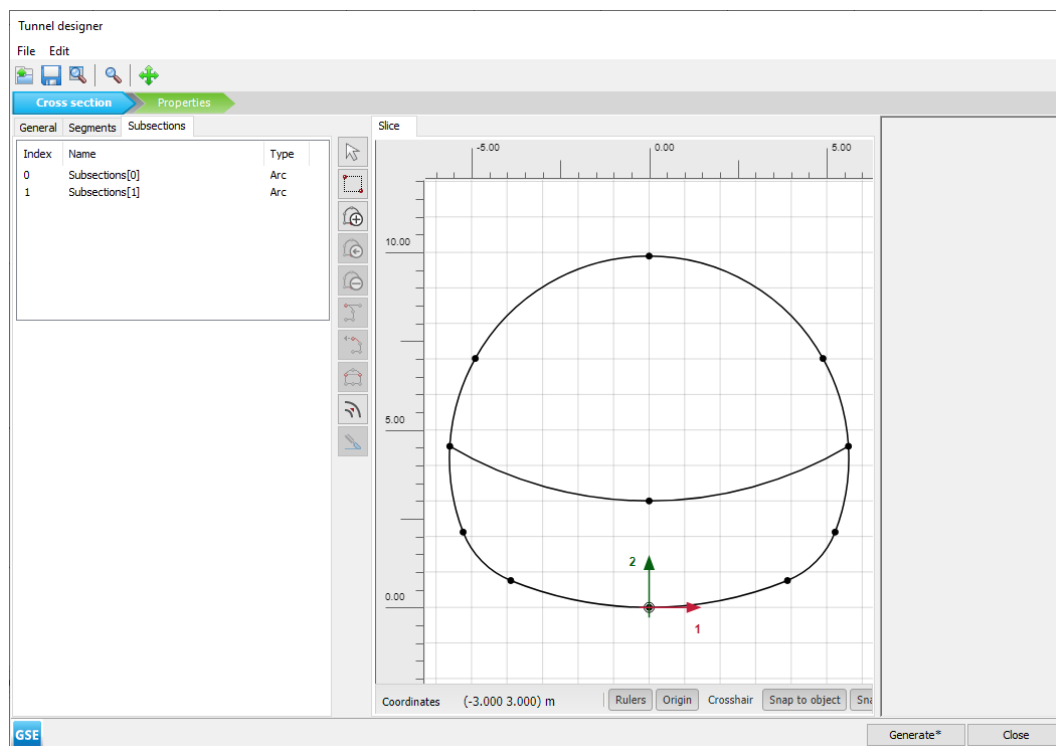

Figure 69: Segments in the tunnel cross section
17. The various segments in the tunnel cross section can be seen in Figure 69 (on page 96).